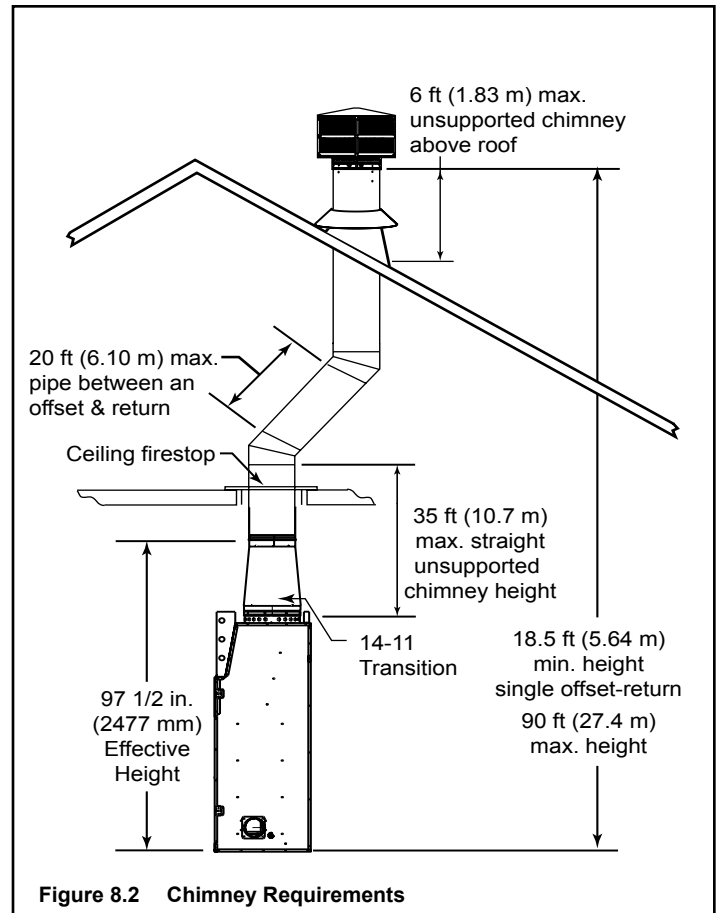

Figure 8.2 Chimney Requirements
Measure vertical distances from the base of the fireplace as shown in Figure 8.2.
- Subtract the effective height of the fireplace assembly (see Figure 8.2) from the total vertical height to determine the overall height of the chimney installation.
- Create a schematic for your application similar to Figure 8.2 showing components required (referring to Table 8.1). Figure 8.1 identifies those components and where used.